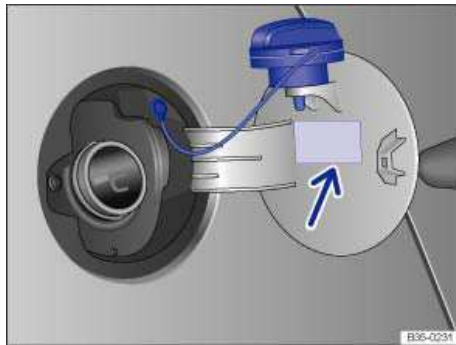

Fig. 162 Fuel cap placed on the open fuel filler flap.
- ☐ Unscrew the fuel cap counterclockwise and remove. Use the slot or the upper edge of the fuel filler flap to hold the cap while refueling ⇒ fig. 162.
The correct fuel grade for your vehicle ⇒ *Fuel* is listed on a sticker on the inside of the fuel filler flap ⇒ fig. 162 (arrow).
The correct fuel grade for your engine is shown on a sticker located on the inside of the fuel filler flap ⇒ fig. 162.